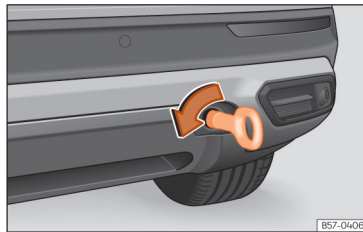

Fig. 195 Right side of the rear bumper: towline anchorage screwed in.
- Screw the towing eye in the housing by turning it to the maximum **anticlockwise** »» Fig. 195 , »» ①. Use a suitable object that can completely and securely tighten the towing eye in its housing.